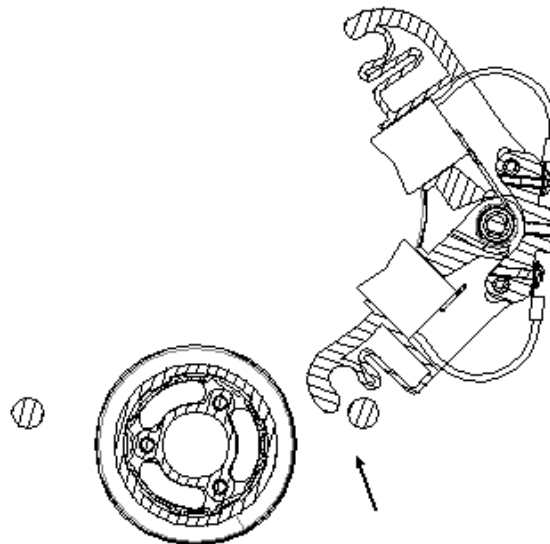

Fig. 19
-Unlock the brush holder (Fig. 19).